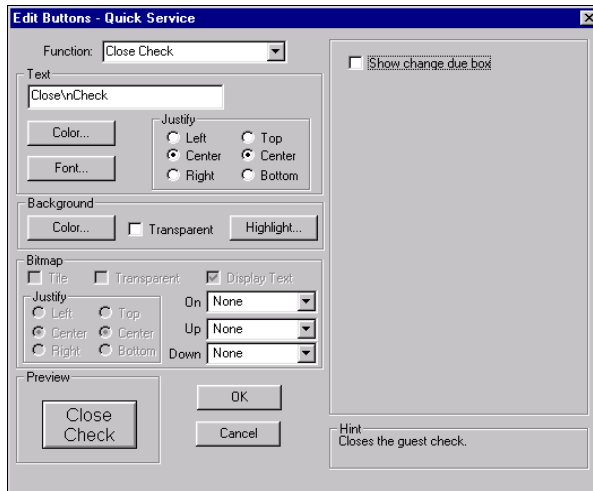

Figure 5-80 Close Check Button Function
1. Select **Close Check** from the **Function** drop-down list. An additional option displays, as shown in Figure 5-80: